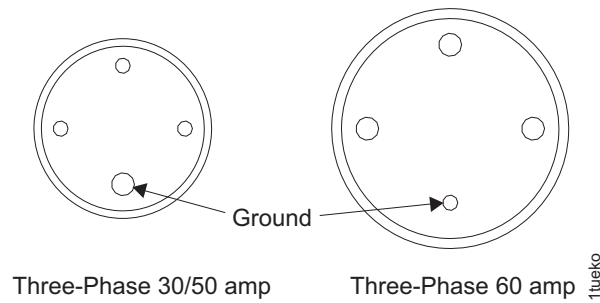

Figure 32. Three-phase amp
5. Prepare the multimeter to measure 0.1 ohm or less resistance. Place one lead of the multimeter on the ground pin of the male plug on the mainline power cable. Place the other lead on the conductive metal of its primary power supply enclosure. Refer to Figure 32 on page 37 for the location of the ground pin. Do this for each mainline power cable.